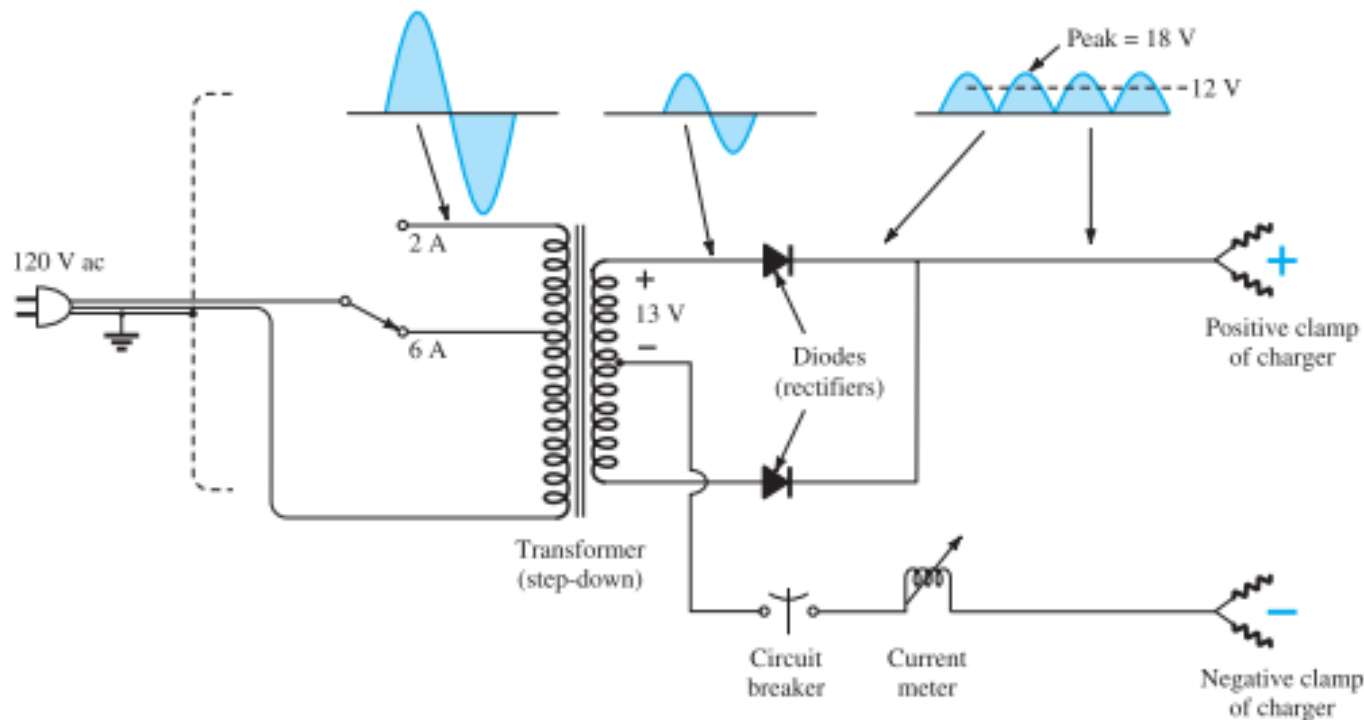

**FIG. 2.128**
*Electrical schematic for the battery charger of Fig. 2.128.*